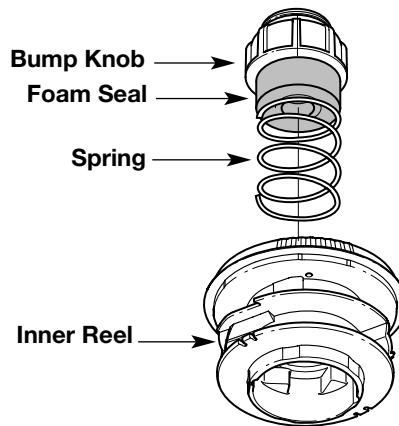

Fig. 47
- Turn the bump knob counterclockwise and remove the bump knob, spring and foam seal (Fig. 47).
4. Hold the inner reel in place and install the bump knob, spring and foam seal (Fig. 47). Press down and turn the bump knob clockwise. Grasp the ends and pull firmly to release the line from the holding slots in the inner reel.
2. Pull out the bump knob, spring and foam seal (Fig. 47).
7. Place the bump knob, spring and foam seal into the inner reel (Fig. 47).